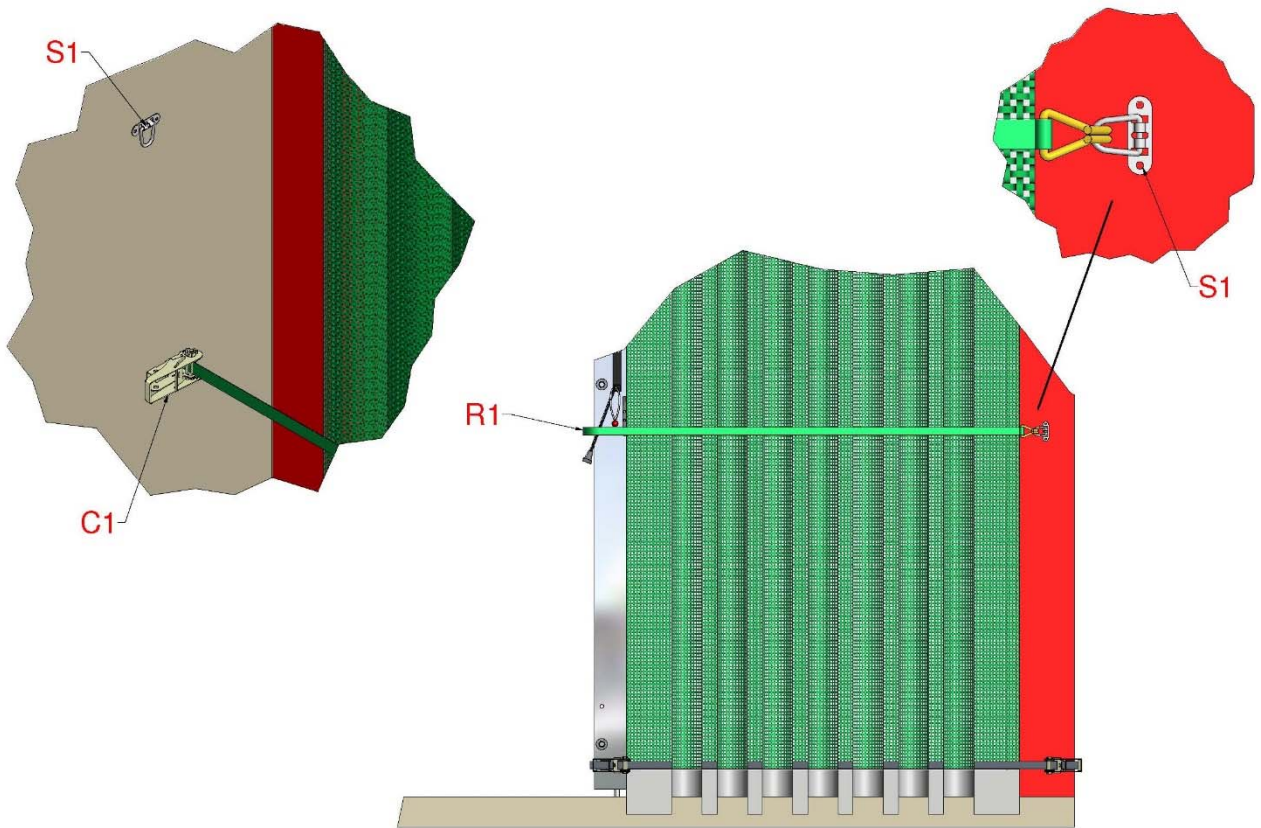

Figure 12, Trackscreen Tieback
17. Fasten the lashing ring (S1) to the building upright as shown in Figure 11. Fasten the 25mm ratchet (C1) to the inside of the building at the same height as the lashing ring. Attach the hook of the 25mm screen tieback strap (R1) to the lashing ring, around the folded trackscreen and onto the ratchet. Tension the ratchet to secure the Trackscreen. It is important that the screen is pulled together as tight as possible when open to prevent screen damage during gusts of wind. Fasten the second lashing ring to the building above the internal ratchet to hang the tieback strap to when not in use, Figure 12.